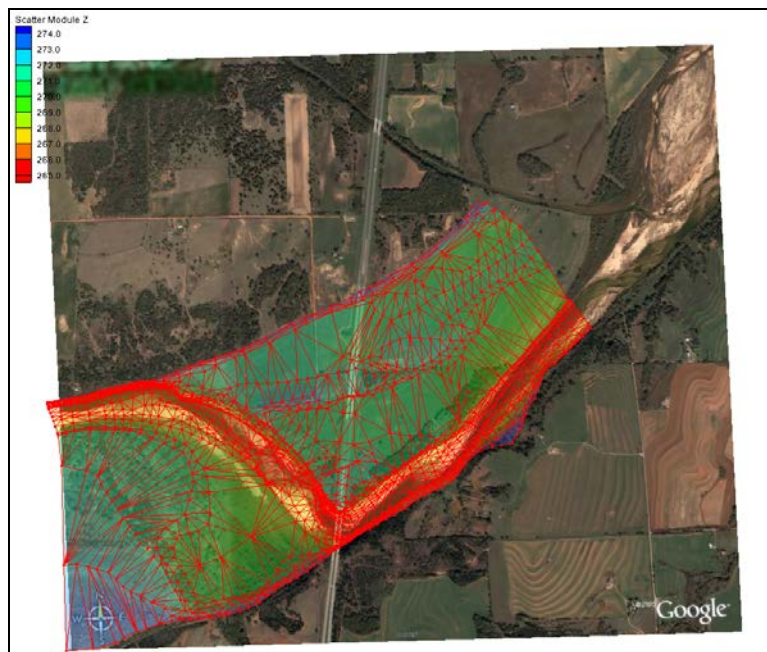

Figure 12 TIN with background image.
6. Select the *Contours* tabs and set the *Transparency* to 70%. Click *OK* to exit the *Display Options* dialog. The graphics window should look like Figure 12.